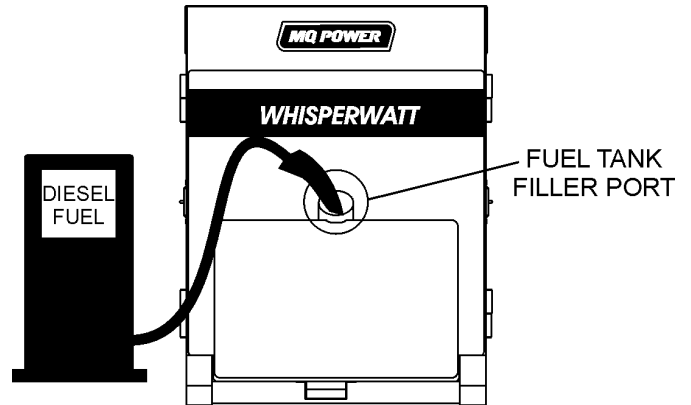

Figure 31. Fueling the Generator
- Remove fuel cap (internal fuel tank) and fill tank as shown in (Figure 31).